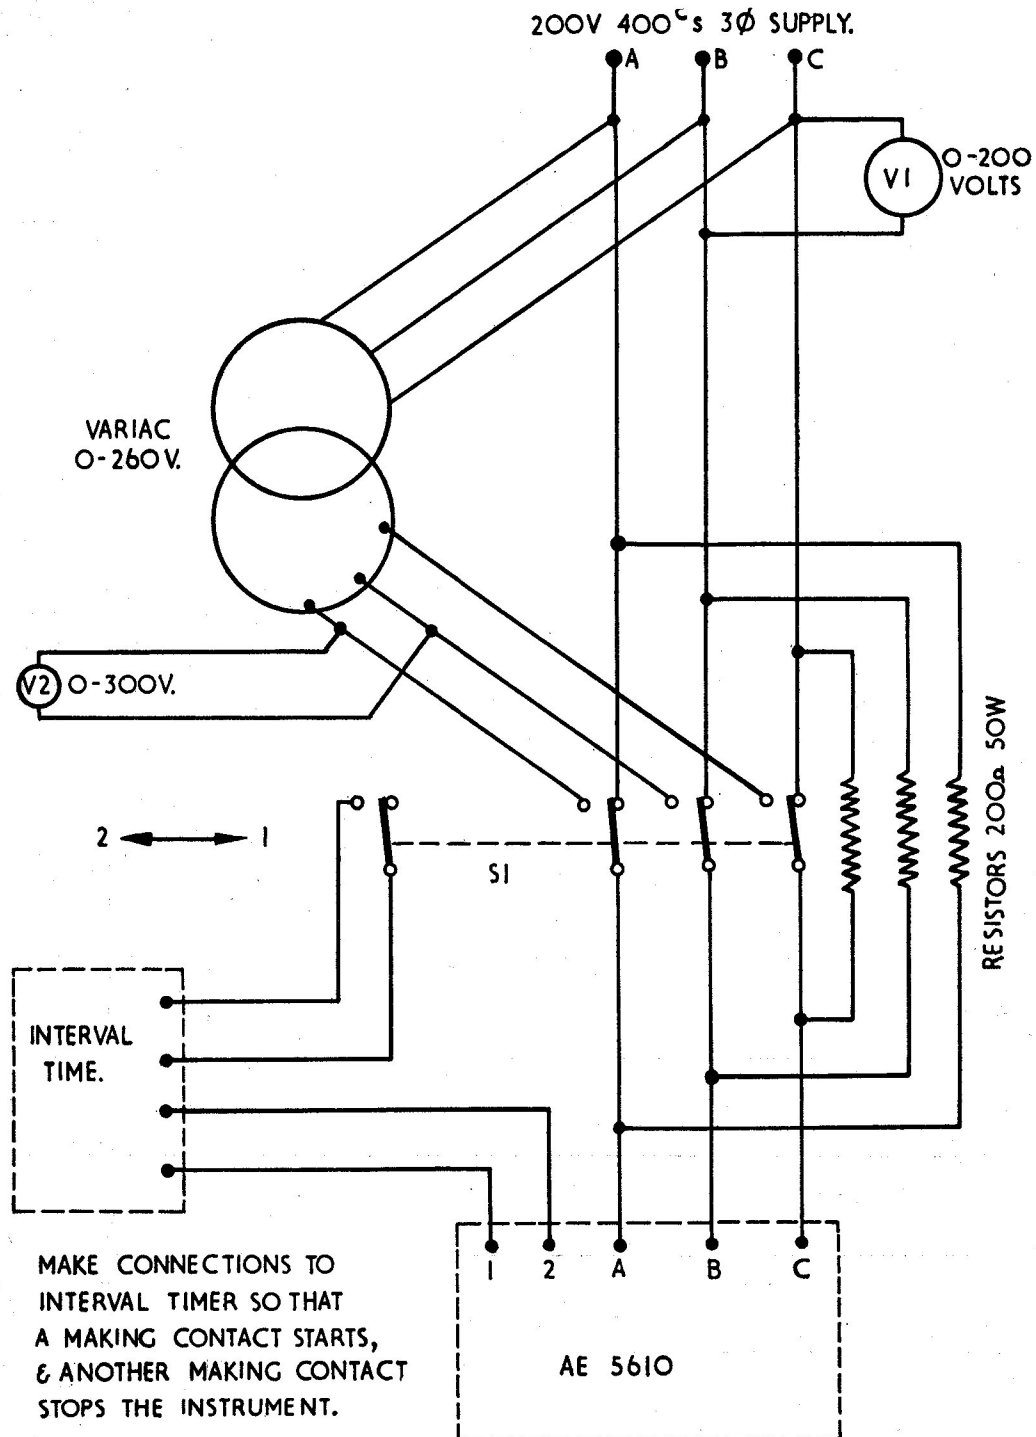

Fig 4. Functional test circuit
24. (1) Connect the unit to the functional test circuit as shown in fig. 4.